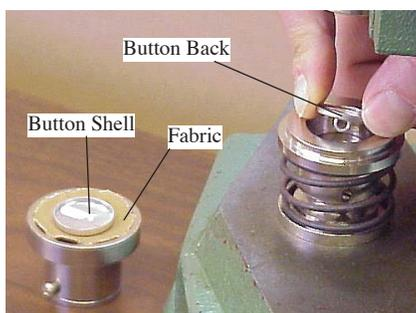

Figure 3
3. Drop the button back with wire loop facing down in the bottom die, and place a piece of the cut fabric on the Top Die, then center the shell on top of the fabric as shown in Figure 3.